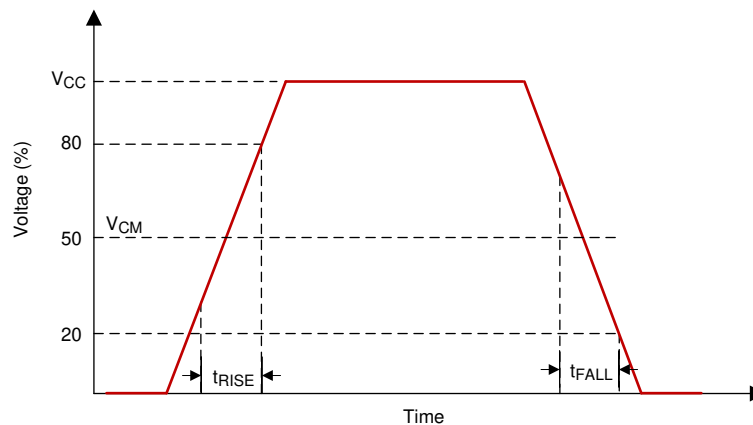

**图 6-2. SCP Timing Requirements**
- (5) Low-speed interface is LPSDR and adheres to the Electrical Characteristics and AC/DC Operating Conditions table in JEDEC Standard No. 209B, "Low-Power Double Data Rate (LPDDR)" JESD209B. Tester conditions for  $V_{\text{IH}}$  and  $V_{\text{IL}}$ .
- (6) PWRDNZ input pin resets the SCP and disables the LVDS receivers. PWRDNZ input pin overrides SCPENZ input pin and tristates the SCPDO output pin.
- (7) The SCP clock is a gated clock. Duty cycle must be 50%  $\pm$  10%. SCP parameter is related to the frequency of DCLK.
- (8) See 图 6-2.